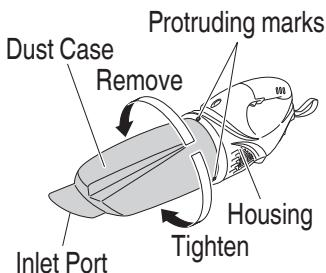

Fig. 6
(1) Remove the dust case (**Fig. 6**)